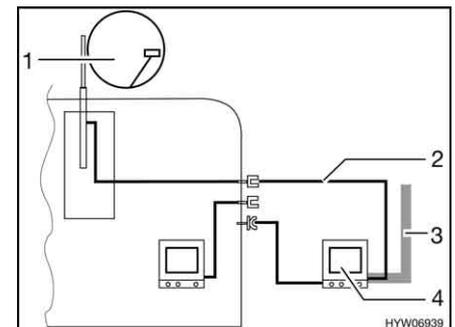

Fig. 192 TV in the awning
- TV inside the awning (Fig. 192,4): Connection to roof antenna (Fig. 192,1) with connection cable (Fig. 192,2)
- TV inside the awning (Fig. 192,4): Connection to external antenna (Fig. 192,3)